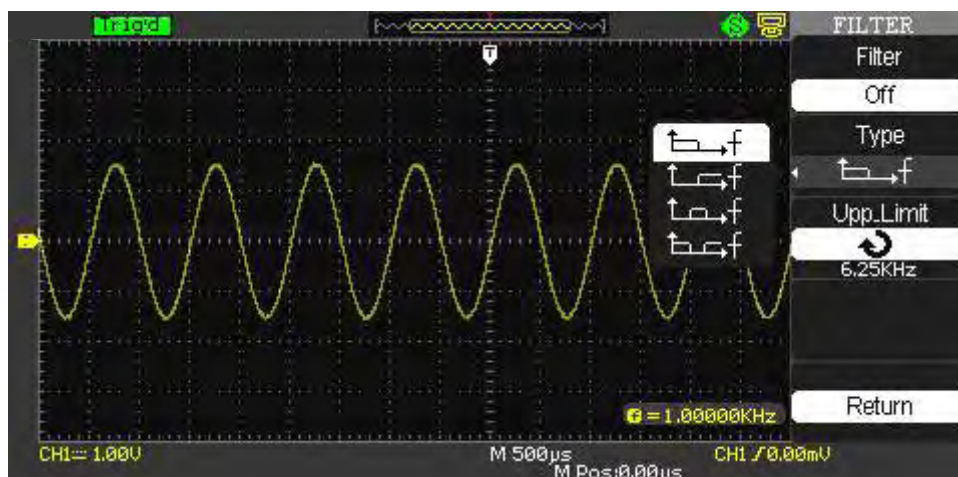

Fig. 16 Digital Filter Off
- Press “CH1”→ “Next Page page1/3”→ “Filter”→ “On”. Turn on the Digital Filter function. Display screen after turning On filter is as shown in Fig.16 on next page.